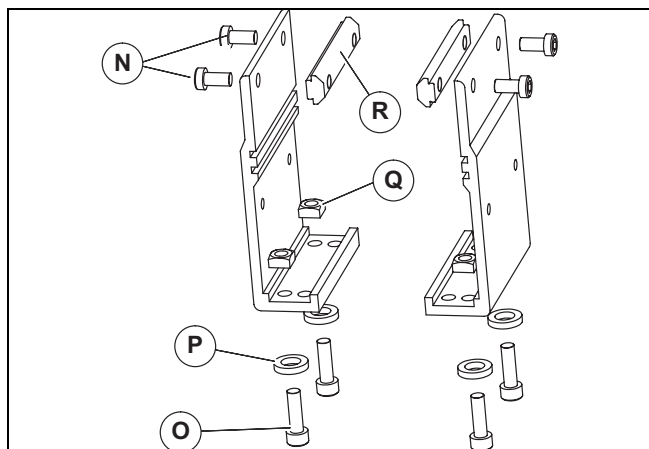
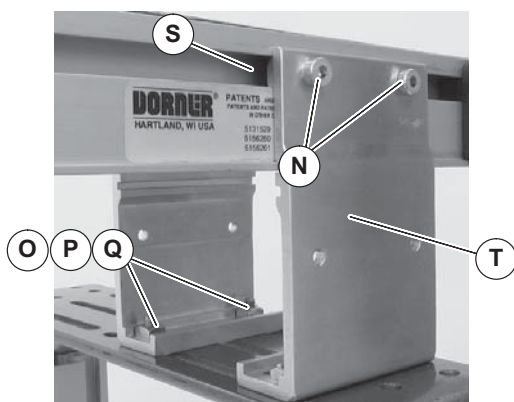

Figure 7
Figure 8
1. Locate mounting bracket assemblies. Exploded views are shown in Figure 7.
2. Remove screws (Figure 7, item N and O), washers (P), nuts (Q) and T-bars (R) from brackets.
3. Insert T-bars (Figure 7, item R) into conveyor side slots (Figure 8, item S). Fasten brackets (T) to conveyor and T-bars (R) with mounting screws (N).